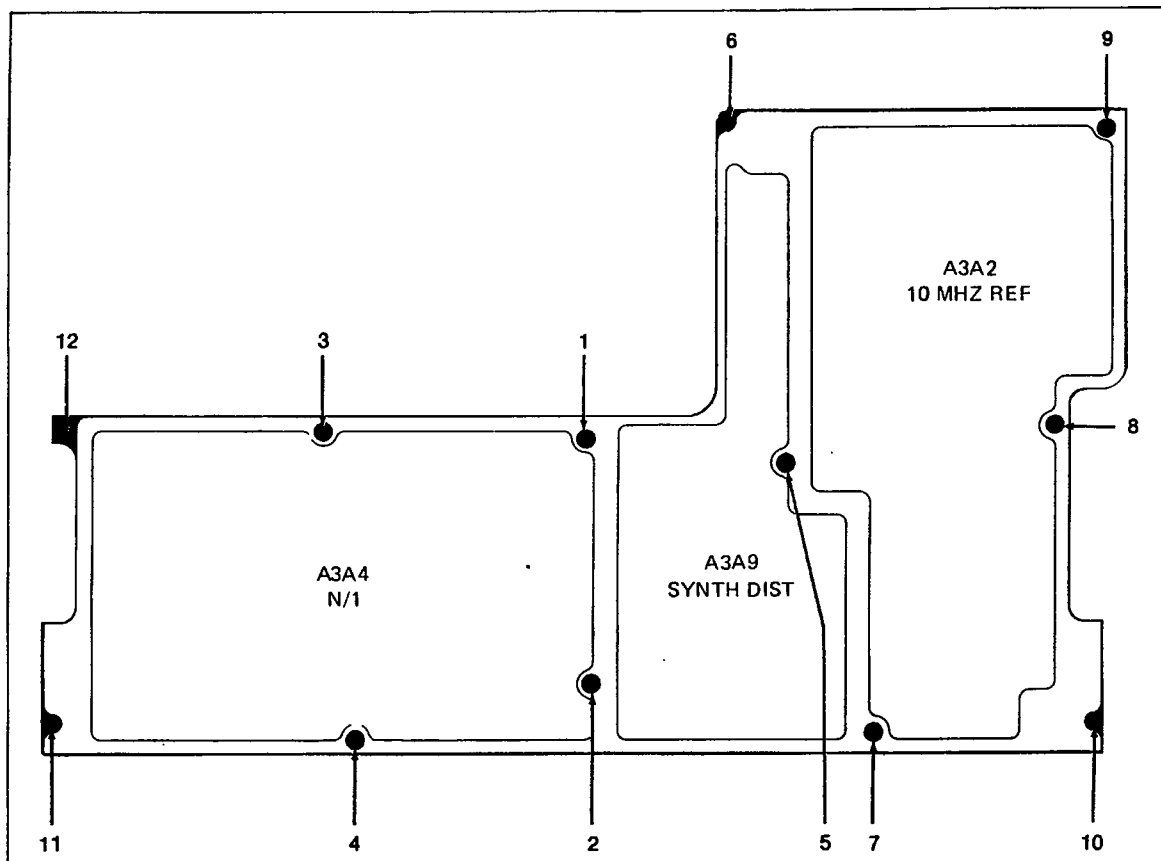

Figure 3-7. Torque Sequence, A3A2, A3A4, A3A9 Cover
3-21. The A3A2 10 MHz Reference PCB, the A3A4 N/1 Divider PCB, and the A3A9 Synthesizer Distribution PCB access procedure consists of removing the top cover. After the top cover has been removed, the cover screws must be torqued back in place to insure specified RF integrity. Figure 3-7 illustrates the sequence in which the screws must be torqued.
- a. Torque all the screws to 3 inch-pounds in the numerical sequence shown in Figure 3-7.
- b. Torque all the screws to 7 to 9 inch-pounds in the numerical sequence shown in Figure 3-7. The torque value should be the same for all screws.